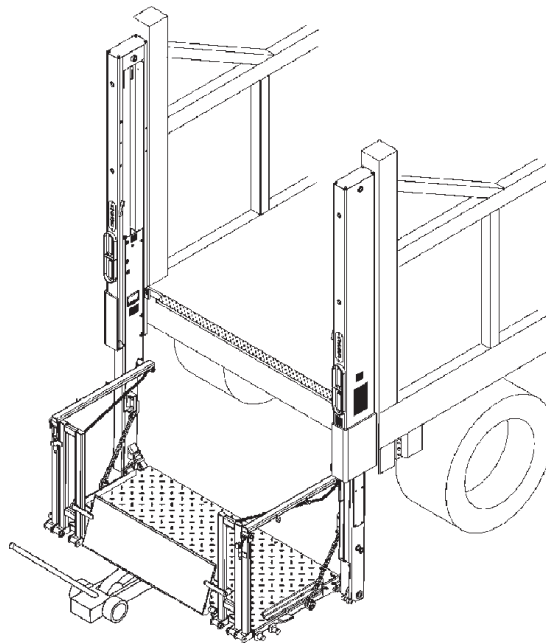

FIG. 22-1
9. Remove jack stands. Lower jack and platform all the way (**FIG. 22-1**). Pressurize hydraulic system by pushing control switch to **UP** position. Release switch when platform is raised to bed height.